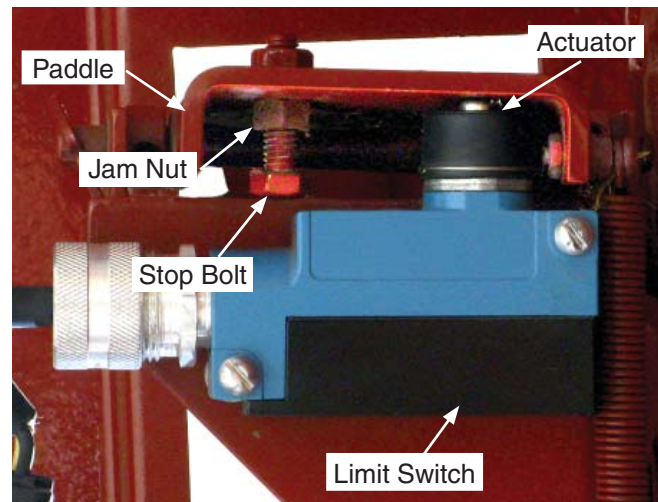

Figure 20 - Actuator Stop Bolt Adjustment
1. Loosen the jam nut on the stop bolt (see Figure 20).